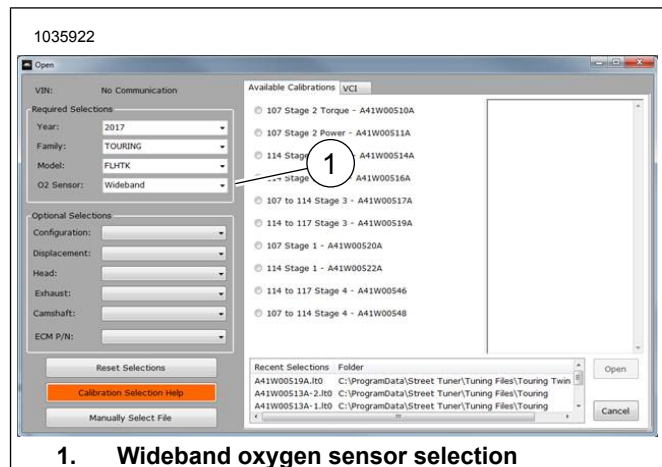

Figure 51. Wideband Oxygen Sensor Selection
24. See Figure 51. Use Screamin' Eagle Pro Street Tuner to complete installation. Download new ECM calibration when installing this kit. When selecting a calibration to download with the Screamin' Eagle Pro Street Tuner, select Wideband (1) from the pull down menu for the Oxygen Sensor option. Refer to the Screamin' Eagle Pro catalog or contact a Harley-Davidson dealer for Screamin' Eagle Pro Street Tuner details.